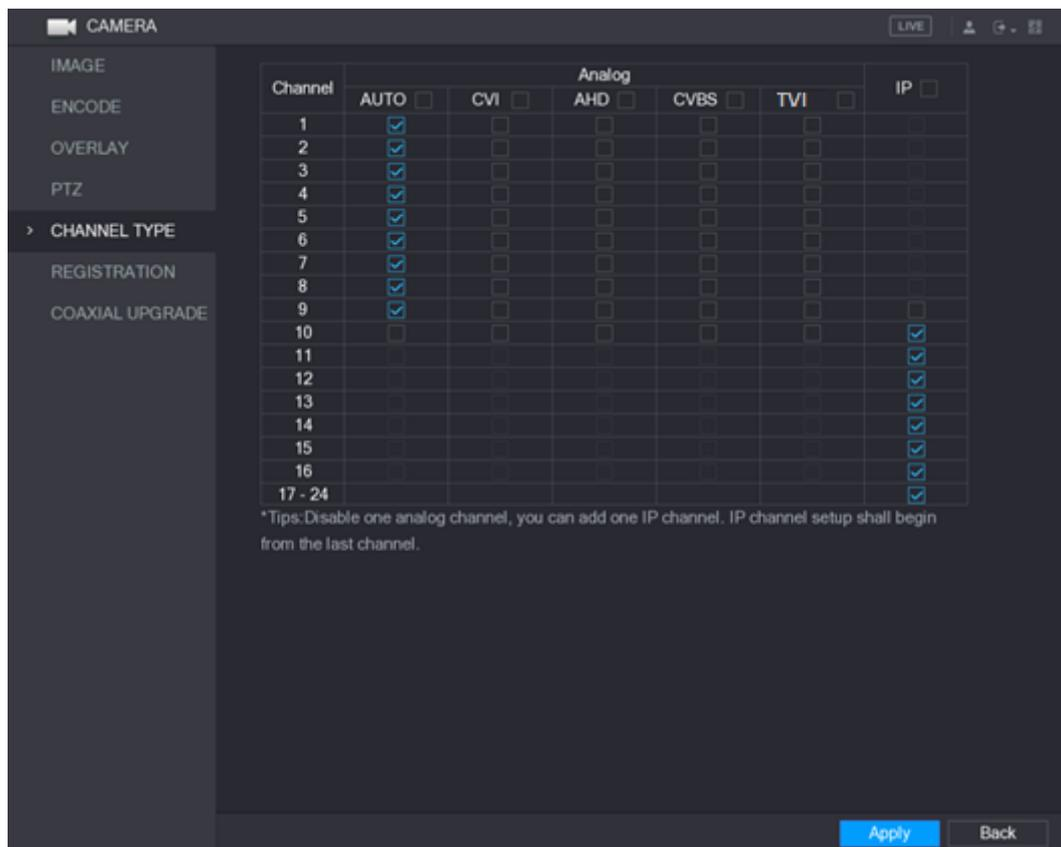

Figure 5-65
The **CHANNEL TYPE** interface is displayed. See Figure 5-65.
- IP Channel: You can enable the IP channels by disabling the corresponding analog channels. The Device also provides expanded IP channels for your use, such as the **17–24** channels in Figure 5-65.